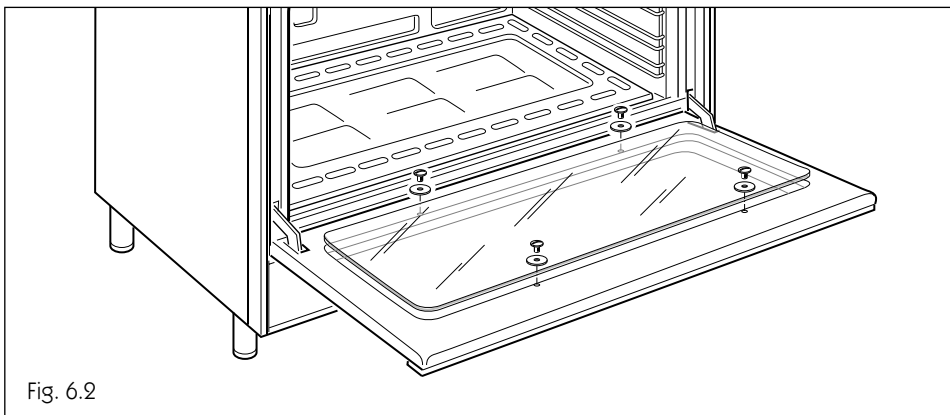

Fig. 6.2
- The inner glass door panel can easily be removed for cleaning by unscrewing the four screws (fig. 6.2).